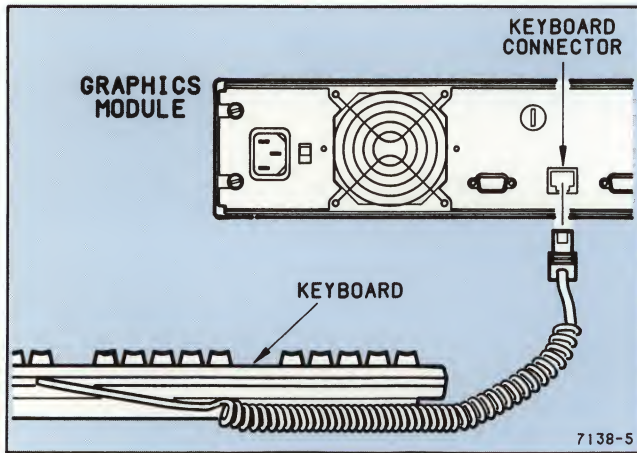

Figure 2-5. Keyboard Connection.
1. Connect the keyboard cable to the **KEYBOARD** connector on the back of the Graphics module as in Figure 2-5. (If you are using the floor stand, remember to use the keyboard cable extension.)